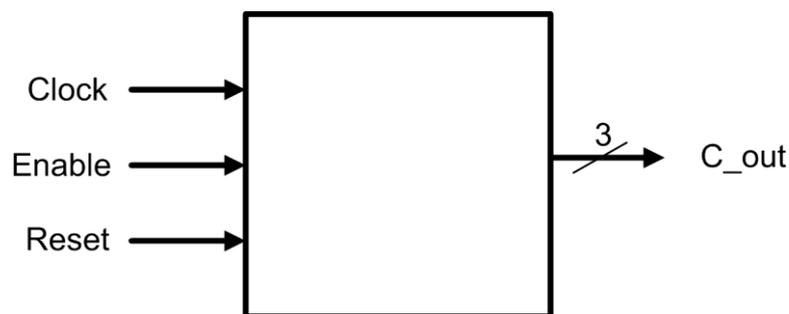

Figure 1 3-bit counter
2. Write a 3-bit counter in VHDL(entity and architecture) based on the symbol in Figure 1. The VHDL file should be named **counter_lab2.vhd** (remember that the entity must have the same name as the file). The reset should be implemented to be a synchronous reset (to the Clock signal), and the counter should increment on the rising Clock edge. The Enable input must be high ('1') in order for the counter to count (increment the C_out value).